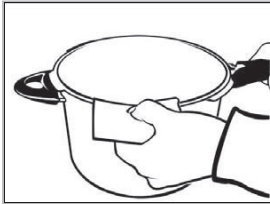

Figure 1
- Season the cooker rim with a little cooking oil, in order to make opening and closing easier. See Figure 1.